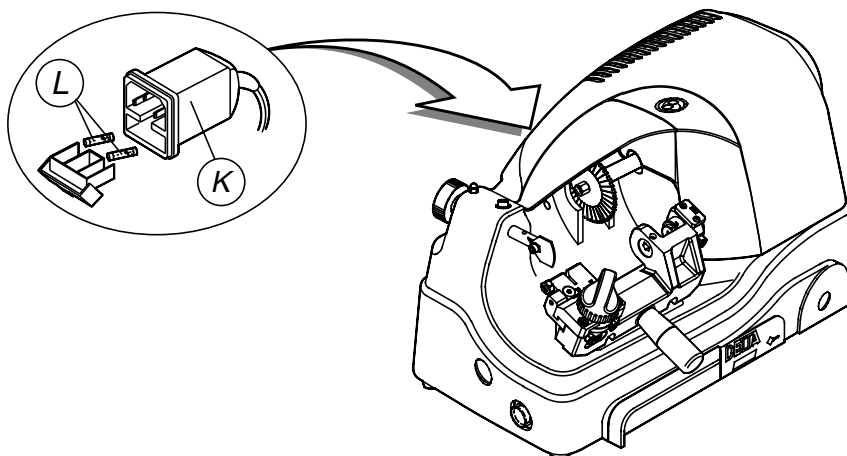

Fig. 20
- 3) remove the fuse box placed below the power inlet (K) (fig.20);
- 4) replace the fuses (L);